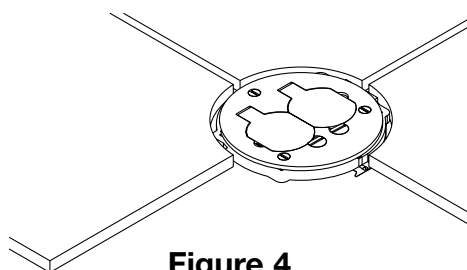

Figure 4
2. Apply tile over concrete floor (see Figure 4).